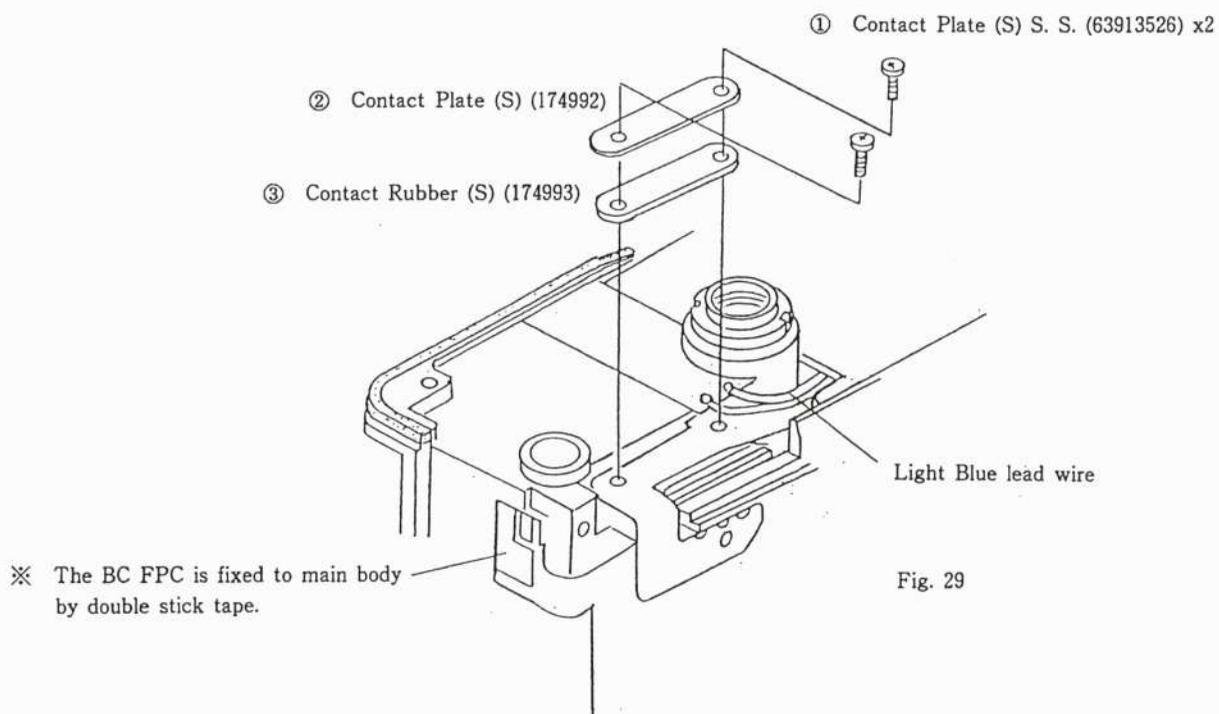

Fig. 29
- 12) Remove the respective parts ①~③ shown in(Fig 29) in numerical order.